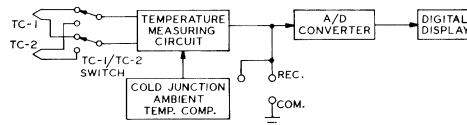

Figure 5-2. Normal Temperature Measurement Mode
5.2.1 Normal Temperature Measurement Mode: The basic circuit is shown in Figure 5-2. The thermocouple output voltage (function of the temperature being measured) is connected to input jacks TC-1 or TC-2, conditioned according to the range selected (LO/HI and °F/°C) and applied as a proportional DC voltage to the A/D Converter Section. This section converts the DC voltage into a “7 line” code to directly drive a 7 segment type 3½ digit, digital display (LCD).